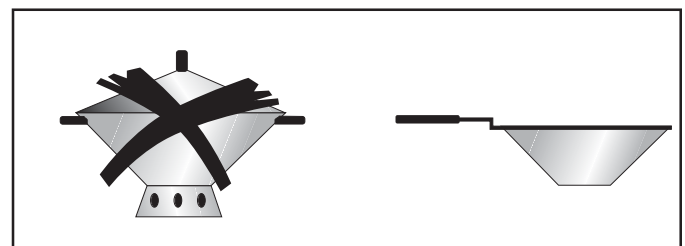

Figure 39
- See Figure 39. Do not use a wok with a ring stand. Use flat bottom wok.